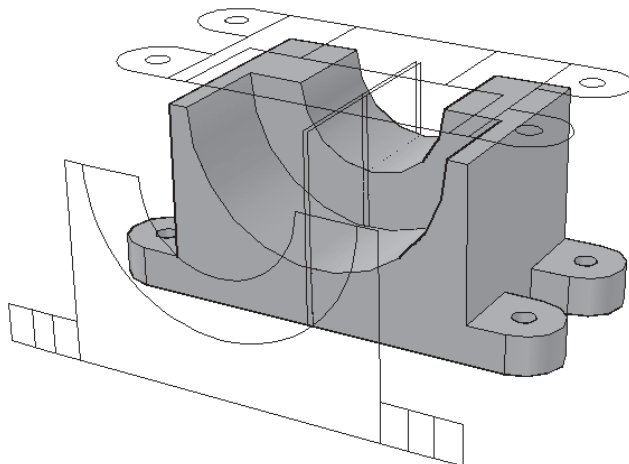

Figure 11–10
3. The command draws the 2D shapes on the 3D solids. It automatically freezes the layer that contains the 2D shapes in all of the other viewports. If you thaw the layers in all of the viewports or return to the **Model** tab, the 2D shapes display as shown in Figure 11–10.